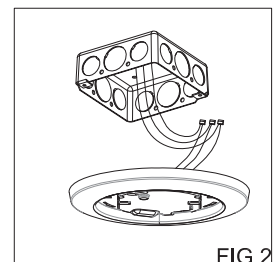

FIG.2
3. Adjust the color to desired one, by sliding the selector switch. (FIG.2)
Adjust the color to desired one,by sliding the selector switch. (FIG.2)